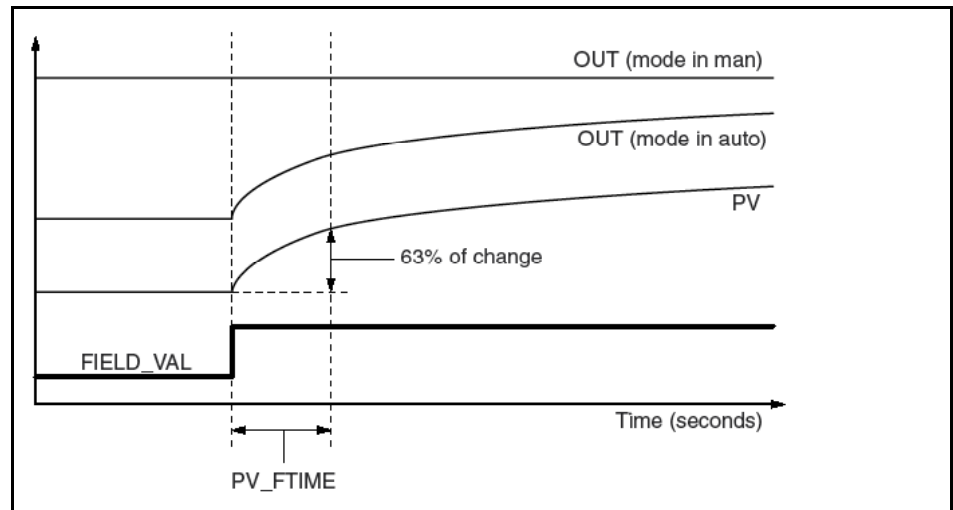

Figure 5-2 Analog Input Function Block Timing
The AI block supports alarming, signal scaling, signal filtering, signal status calculation, mode control, and simulation. In Automatic mode, the block's output parameter (OUT) reflects the process variable (PV) value and status. In Manual mode, OUT may be set manually. The Manual mode is reflected on the output status. A discrete output (OUT\_D) is provided to indicate whether a selected alarm condition is active. Alarm detection is based on the OUT value and user specified alarm limits. Table 5-1 on page 35 lists the AI block parameters and their units of measure, descriptions, and index numbers. AI block timing is illustrated in Figure 5-2 on page 38.